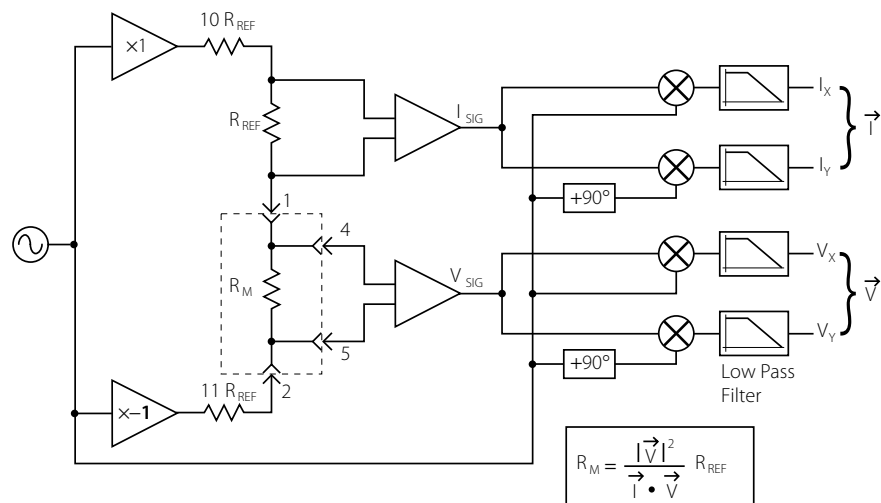

Figure 1.1: Block diagram of the SIM921.
The SIM921 uses a half-bridge topology, where the excitation current is passed through both an internal, stable reference resistor,  $R_R$ , and the user's resistive thermometer,  $R_M$  (see Figure 1.1). Eight separate reference resistors, from 1  $\Omega$  to 10 M $\Omega$ , are built into the instrument, with two expanded scales (200 m $\Omega$  and 20 m $\Omega$ ) implemented with additional gain.
**Passive :** With neither indicator lit, the SIM921 disables excitation servoing, and simply sets a fixed AC amplitude across the entire bridge circuit. The amplitude is set so that for  $R_M$  up to about the  $2R_R$ , the current will approximately equal the corresponding constant-current setting (above). For user resistances much larger than the range setting ( $R_M \gg R_R$ ), the voltage across the user resistor will approach  $\sim 20\times$  the nominal excitation (see Figure 1.1).